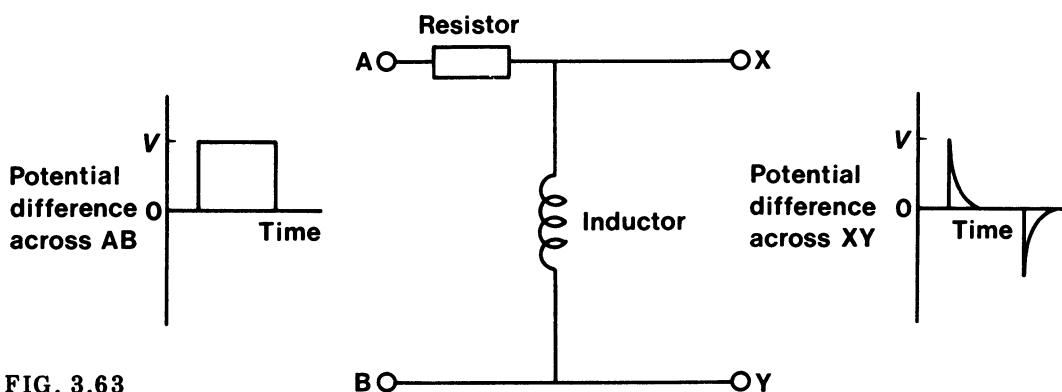

FIG. 3.63
45. The circuit shown in Fig. 3.63 is called a *differentiating circuit*. When a square wave pulse is applied across AB, a pair of 'spiky' pulses appear across XY.